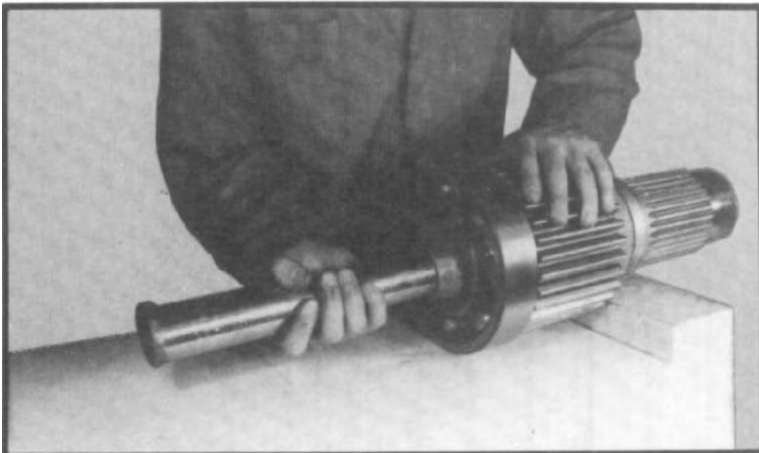

Fig. 80
9. Tap or press intermediate shaft through front bearing and underdrive gear. (See fig. 80.)